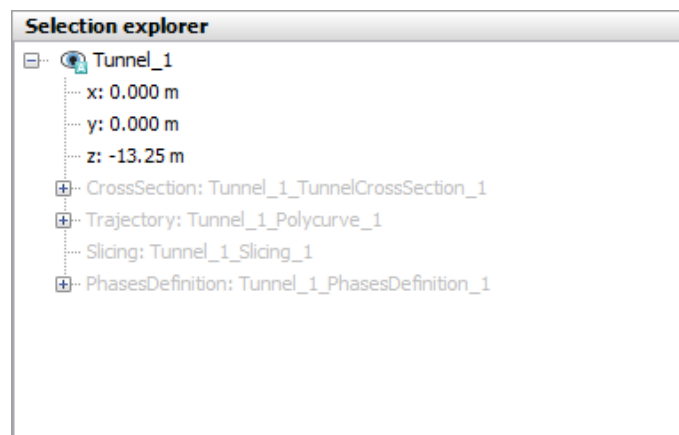

Figure 61: Insertion point of the tunnel
4. In the **Selection explorer** set the insertion point of the tunnel to (0 0 -13.25) as shown in Figure 61 (on page 88).